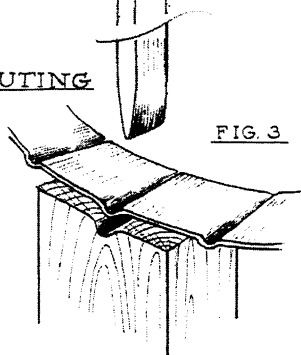

FIG. 3
7. Prepare a wood block for the fluting (Fig. 3).